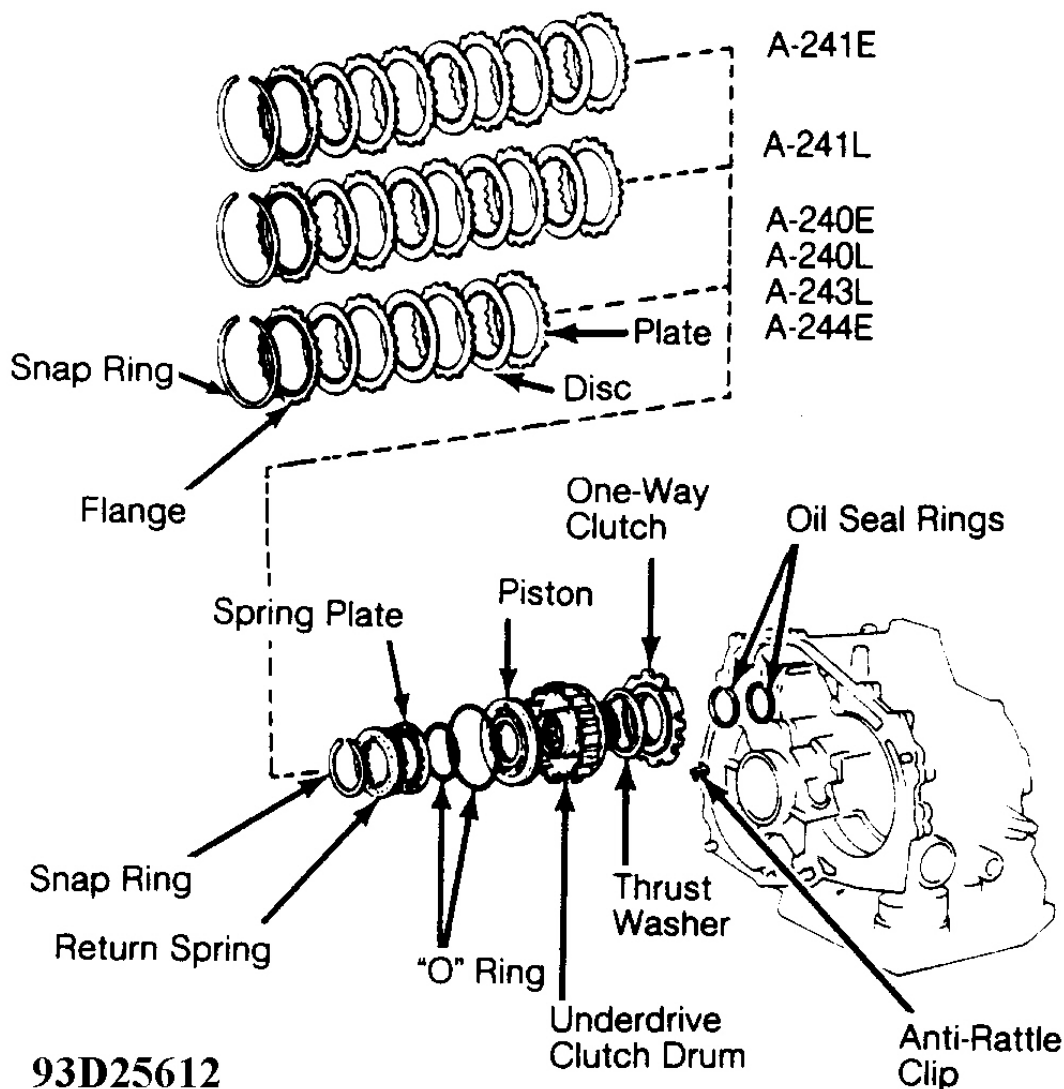

Fig. 39: Exploded View Of Underdrive Clutch & No. 3 One-Way Clutch
1. Remove one-way clutch and thrust washer from under-drive clutch drum. Remove snap ring from underdrive clutch drum. See **Fig. 39**. Remove flange, discs and plates from clutch drum. Note number and location of components. Using Spring Compressor (09351-32070) and press, compress return spring plate.